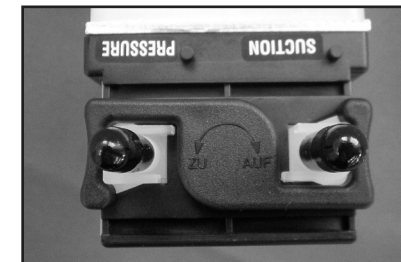

Figure 42: Peristaltic pump S-shaped retain-er clasp
2 Turn the Z-shaped clasp on top of the pump in the direction labeled 'Auf' to release the see-through clip that holds the flexible silicone tube (See Figure 42). Slide the clip and the tube inside it out from under the pump bracket.
- 3 Unscrew the two (2) 3-millimeter hex socket bolts that secure the pump to the module housing plate.
- 2 Turn the Z-shaped clasp on top of the pump in the direction labeled 'Auf' to release the see-through clip that holds the flexible silicone tube (See Figure 42). Slide the clip and the tube out from under the